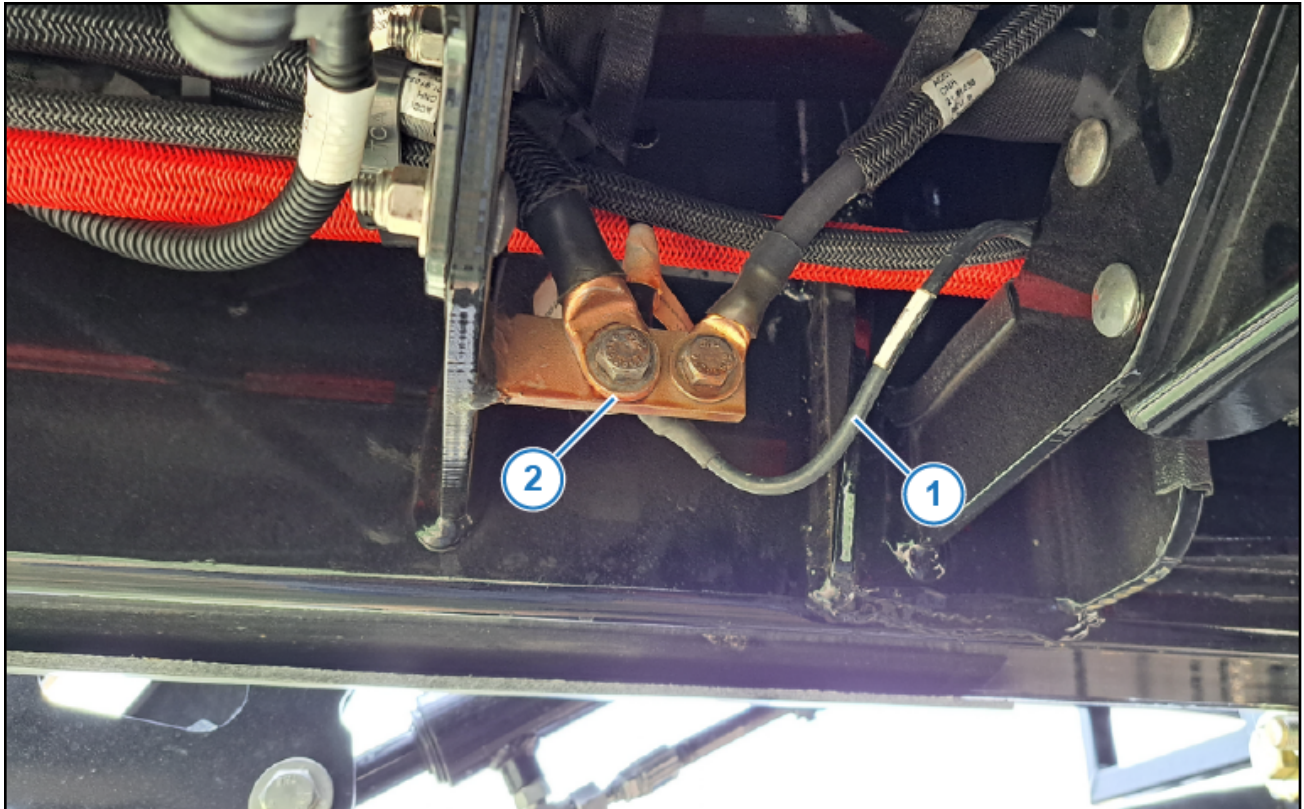

Figure 10: Figure
22. Route the negative power harness cable (Figure 10, Item 1) to the grounding lug (Figure 10, Item 1) located on the underside frame rail. Connect it using the supplied hardware.